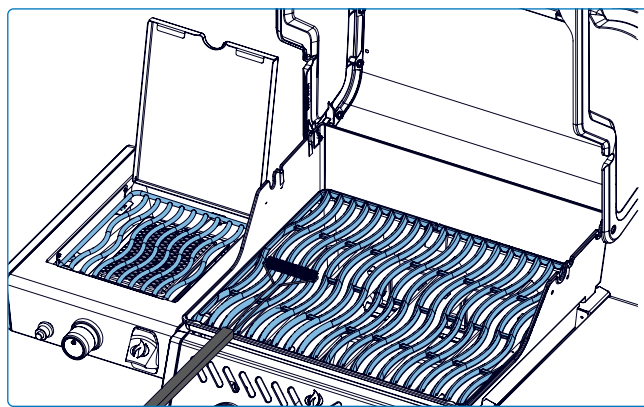

Fig. 20
- To clean, preheat the grill and use a wire brush to remove food residue (**Fig 20**)